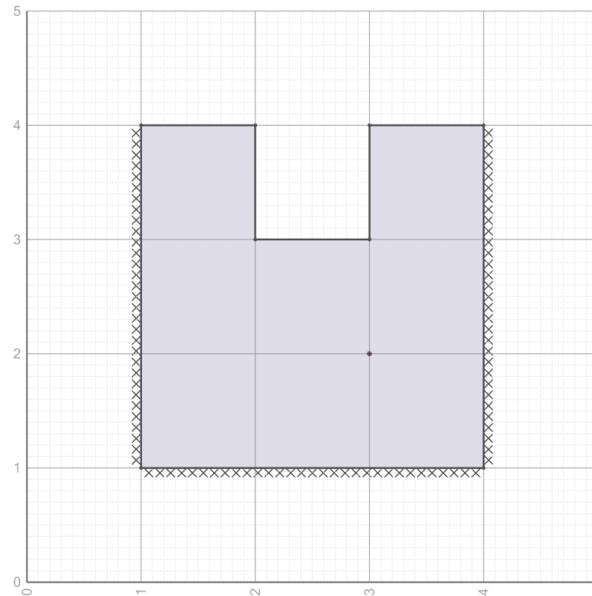

Figure 3.8: A point load displayed on the model at location (3,2).
- ▷ Click **OK**. A point load will now be created and displayed at location (3,2) (Figure 3.8). Note that, by default, all partial factors on load and material strengths are set to unity. To change this, open the **Load Case Manager** (via the menu item **Loads**). Here, existing or new partial factor sets can be assigned as necessary. For the purposes of this example the default settings will be used.